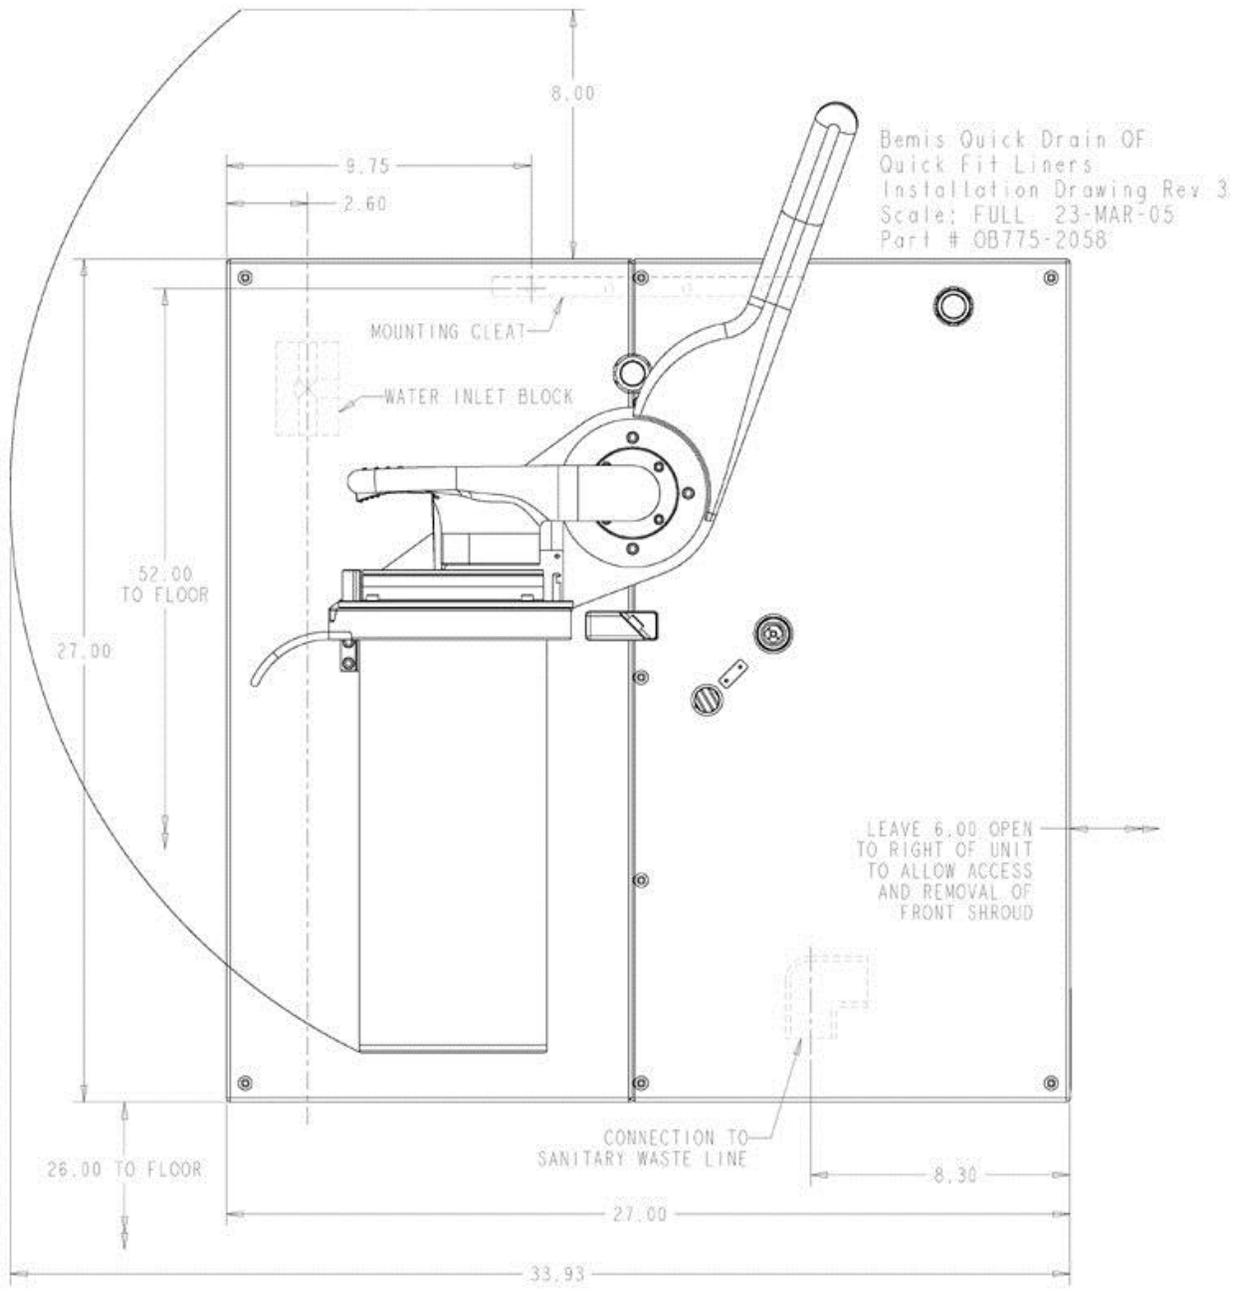

Figure 1: Quick-Drain-QF Installation Dimensions
- ◆ an area of open wall space per figure 1
1. Select a place for the Quick-Drain to be installed, preferably an area isolated from patient contact and treatment. Refer to Figure 1 or 2 (depending on model) for typical dimensions used and the required wall footprint.
4. Take the component bag out of the box inside the crate. Remove the hanging cleat and mount as shown in Figure 1 or 2 (depending on model). Use appropriate fasteners so that the hanging cleat can support at least 150 lbs.
7. A 1/2" water line can be run to the Quick-Drain from the top or bottom of the machine. (Reference Figure 1 or 2) When running the water line to the machine, place a water valve just before the Quick-Drain so that water can be turned off to the system if needed.